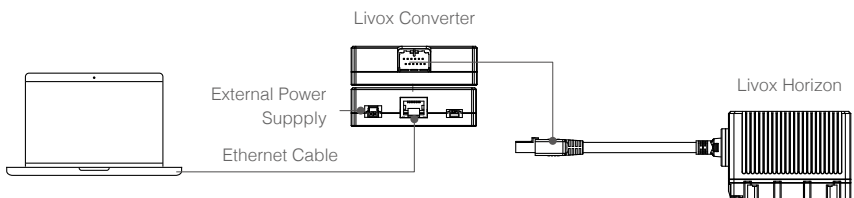

Figure 4.2.1 Connecting using static IP address
2. Connect the Horizon, Livox Converter 2.0, external power source, and computer by following Figure 4.2.1.
1. Follow Figure 4.2.1 to connect the Horizon, Livox Converter 2.0, external power source, and computer.